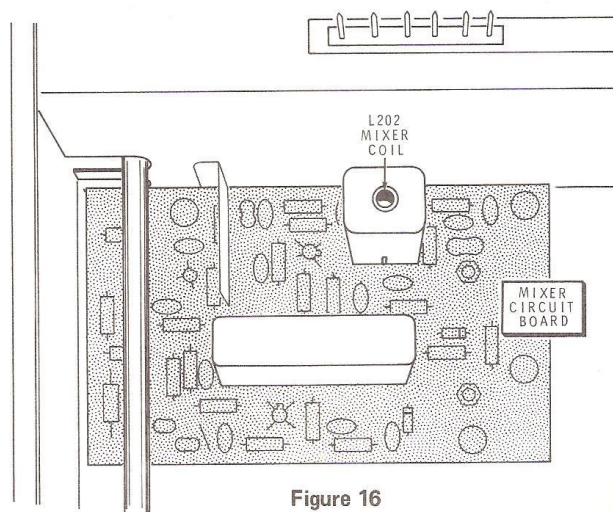

Figure 16
- () Refer to Figure 16 and adjust mixer coil L202 for a maximum S-meter reading.